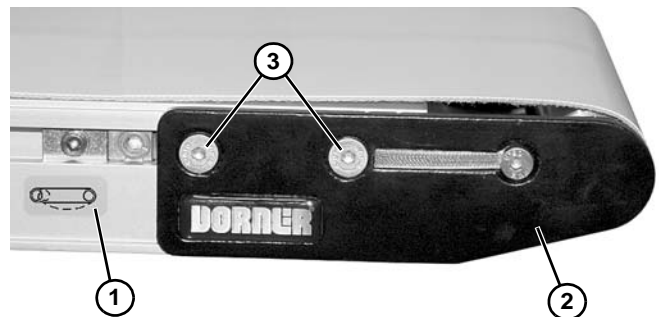

Figure 46
5. On tension end of the conveyor, identified with a  label (**Figure 46, item 1**), push in headplate assembly (**Figure 46, item 2**): On both sides of conveyor, loosen fastening screws (**Figure 46, item 3**) and push headplate assembly inward.